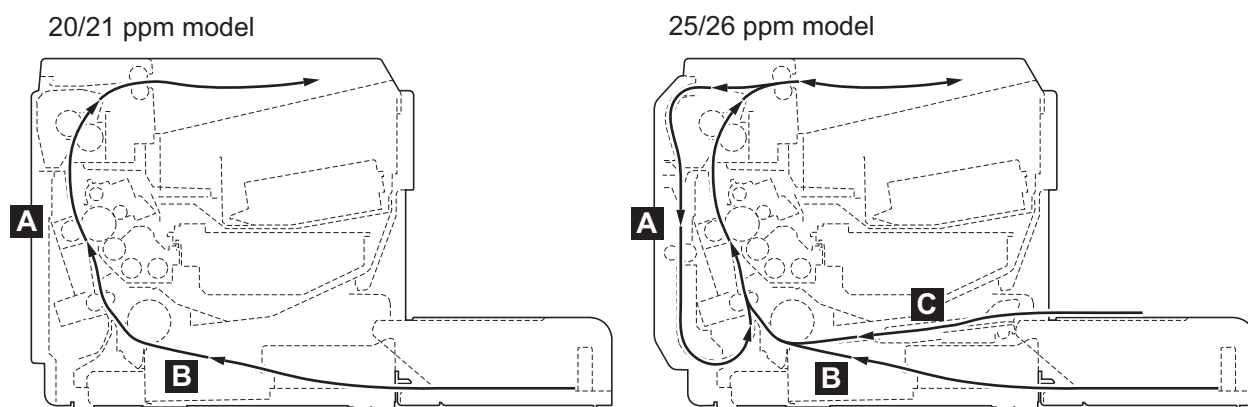

Figure 1-4-1 Paper misfeed indication
*: Refer to figure 1-4-1 for paper misfeed indication (see page 1-4-1).